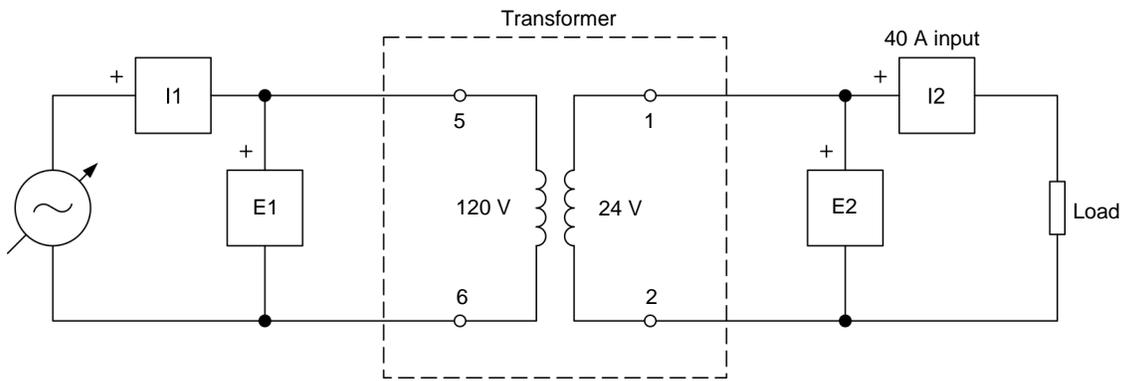

Figure 9. 120 VA step-down transformer connected to a low-voltage resistive load.
33. Set up the 120 VA step-down transformer shown in Figure 9. Do not connect the resistive load for the moment. This makes the load resistance at the transformer secondary infinite.
39. On the **Wind Turbine Generator/Controller** module, connect all three $15\ \Omega$ load resistors in parallel. Then, connect the resulting $5\ \Omega$ resistive load to the circuit, as shown in Figure 9.